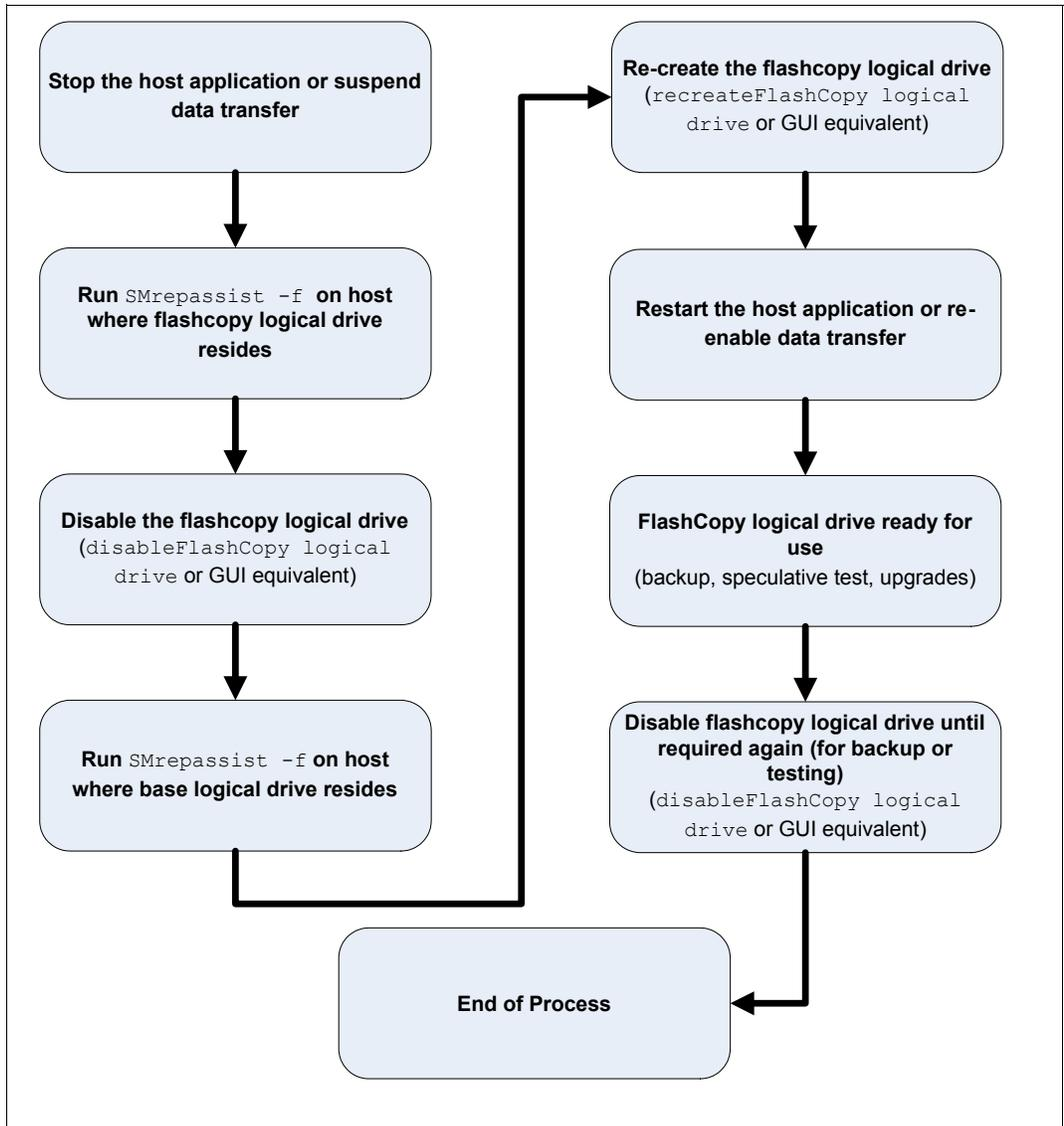

Figure A-2 Re-using disabled FlashCopy logical drives: Windows basic/regular disks
- ▶ Reuse a disabled FlashCopy logical drive on Windows Server 2003 or Windows Server 2008. See Figure A-2 on page 724.